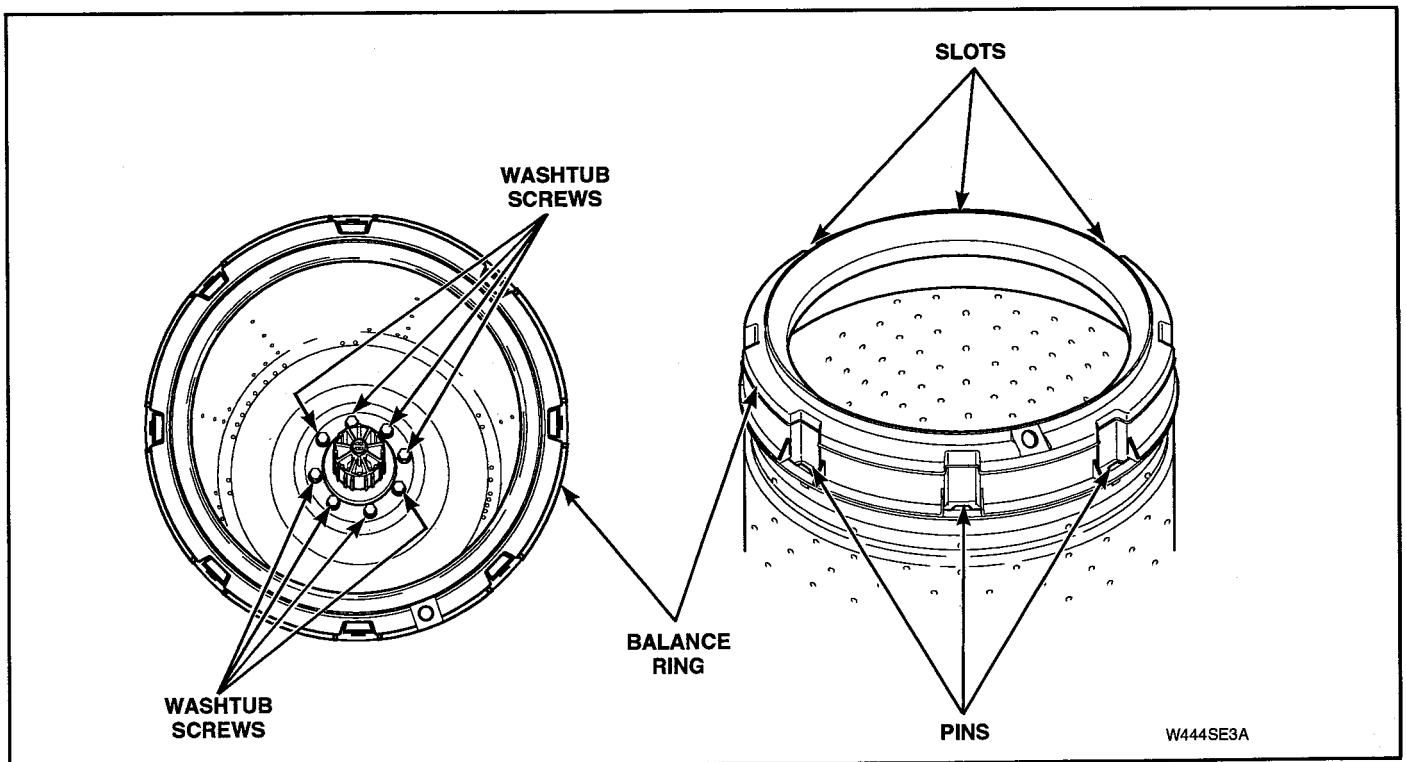

Figure 5-29
m. Remove screws and washers holding washtub to hub. See Figure 5-29.
- a. Place blade of a small screwdriver into slots between balance ring and washtub. See Figure 5-29.
- b. Carefully pry pins of balance ring out of holes in washtub. See Figure 5-29.
- i. Remove screws holding washtub to hub. See Figure 5-29. Then lift washtub out of outer tub.